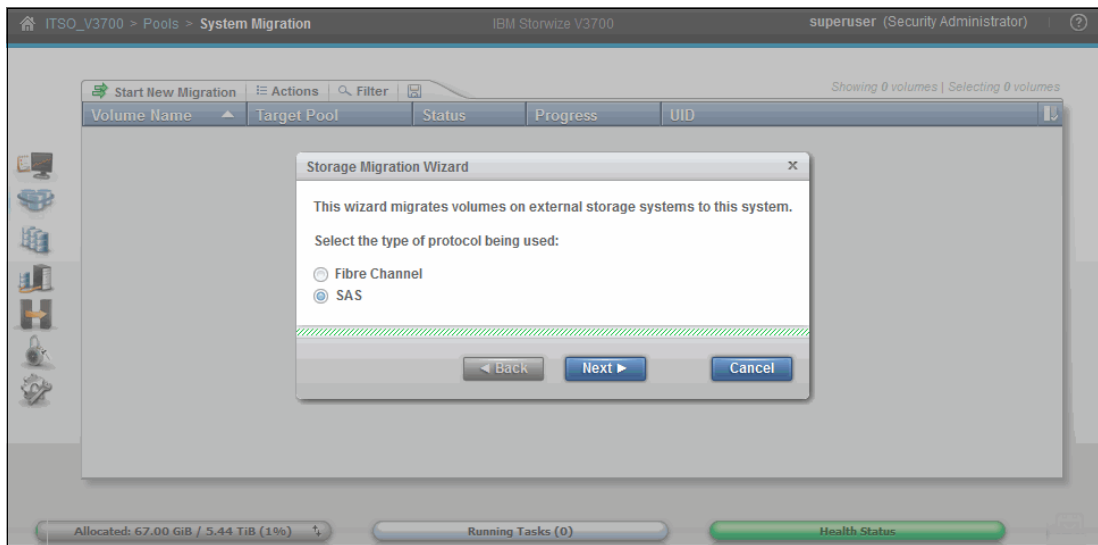

Figure 6-15 Choosing FC or SAS attached storage for migration
3. If there are both FC-attached and SAS-attached external storage systems that the IBM Storwize V3700 can see, the wizard progresses with a choice of migrating an Fibre Channel or SAS host, as shown in Figure 6-15.